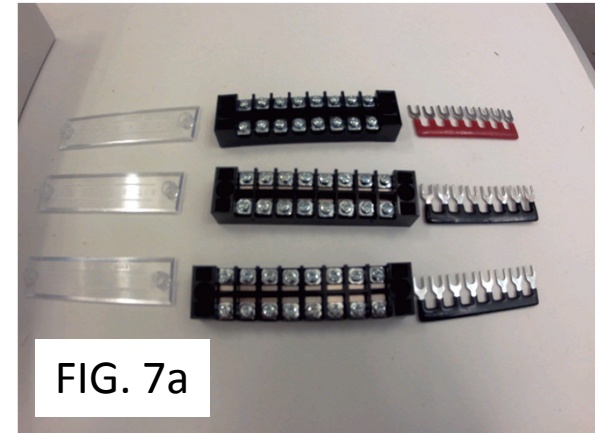

FIG. 7a
- Remove protective covers from power bus bars (Fig. 7a).